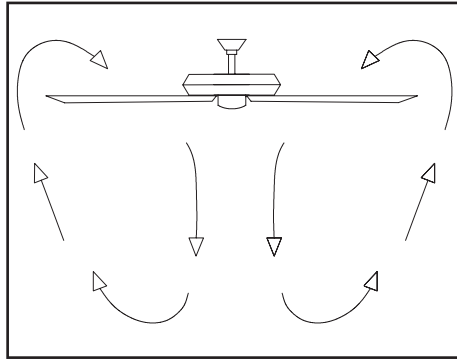

Figure 21
**Warm weather** - (Forward) A downward air flow creates a cooling effect as shown in Figure 21. This allows you to set your air conditioner on a higher setting without affecting your comfort.